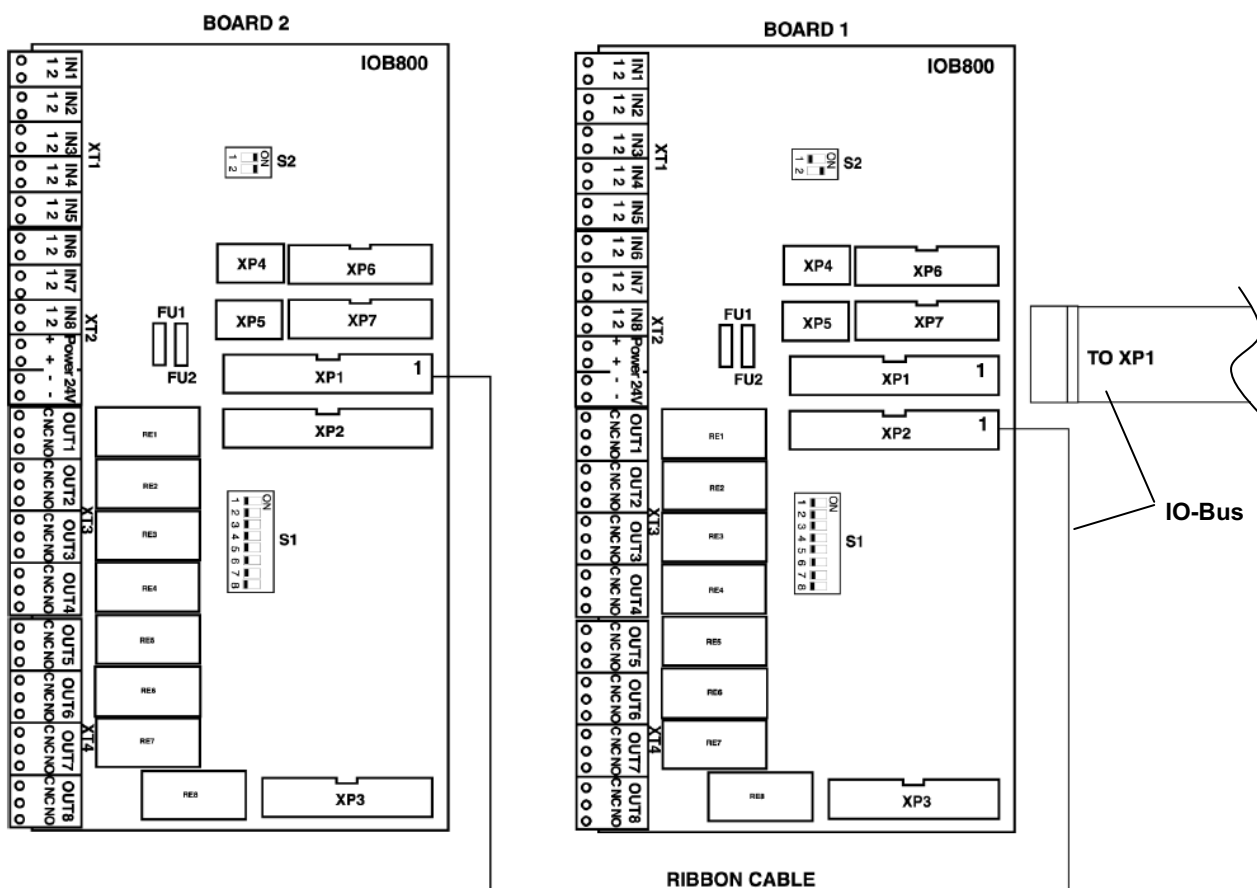

Fig. 29: IOB800 - Switch, terminal and connector positions.
- 5 Connect the supply cable to the XP4 position on the IOB800 board. Refer to Fig. 29.